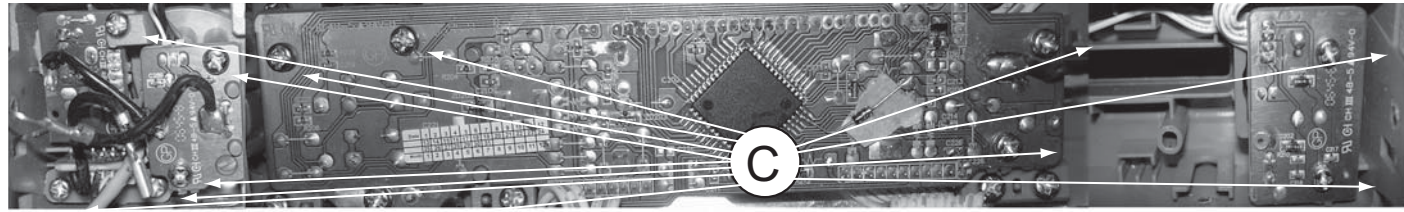

Figure 6
- 1) Loosen 12 screws "C" on the control board as shown in figure 6